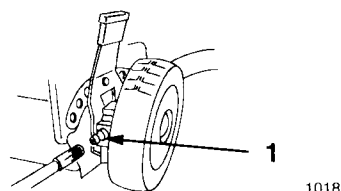

Figure 34
1. Wipe the grease fittings on the rear wheel height adjustment levers with a clean rag (Fig. 34).